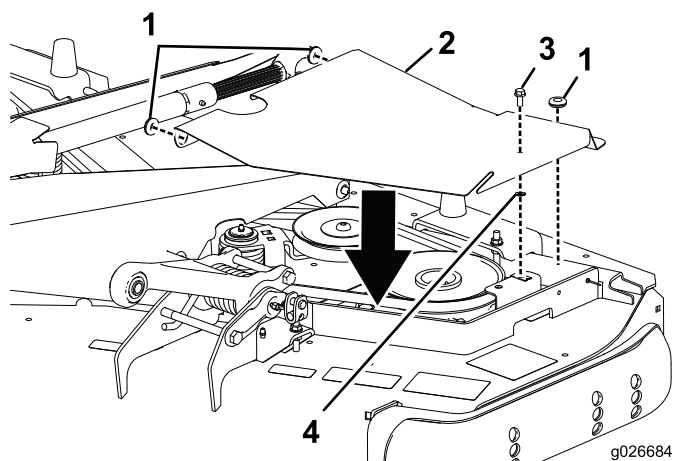

Figure 10
1. Insert a grommet into each of the 3 holes in the left deck cover (Figure 10).
2. Install the hex flange screw and push nut to the cover (Figure 10).
4. Secure the cover to the existing retainer nut in the deck with the previously installed hex flange screw (Figure 10).